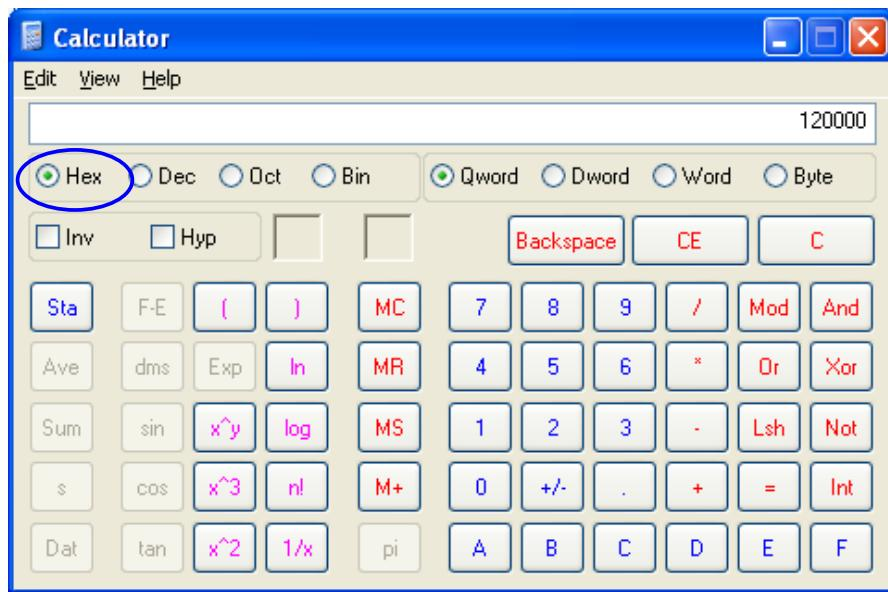

Figure 144
- The outcome in Hexadecimal will be **120000** (See Figure 144)